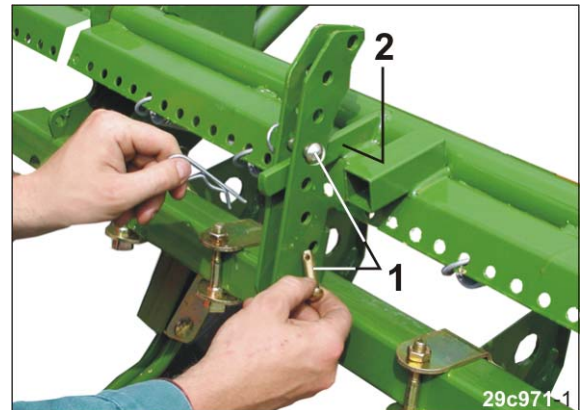

Fig. 178
3. Insert one pin (Fig. 178/1) below and above the stop (Fig. 178/2) into the adjuster segment and secure with clip pins.